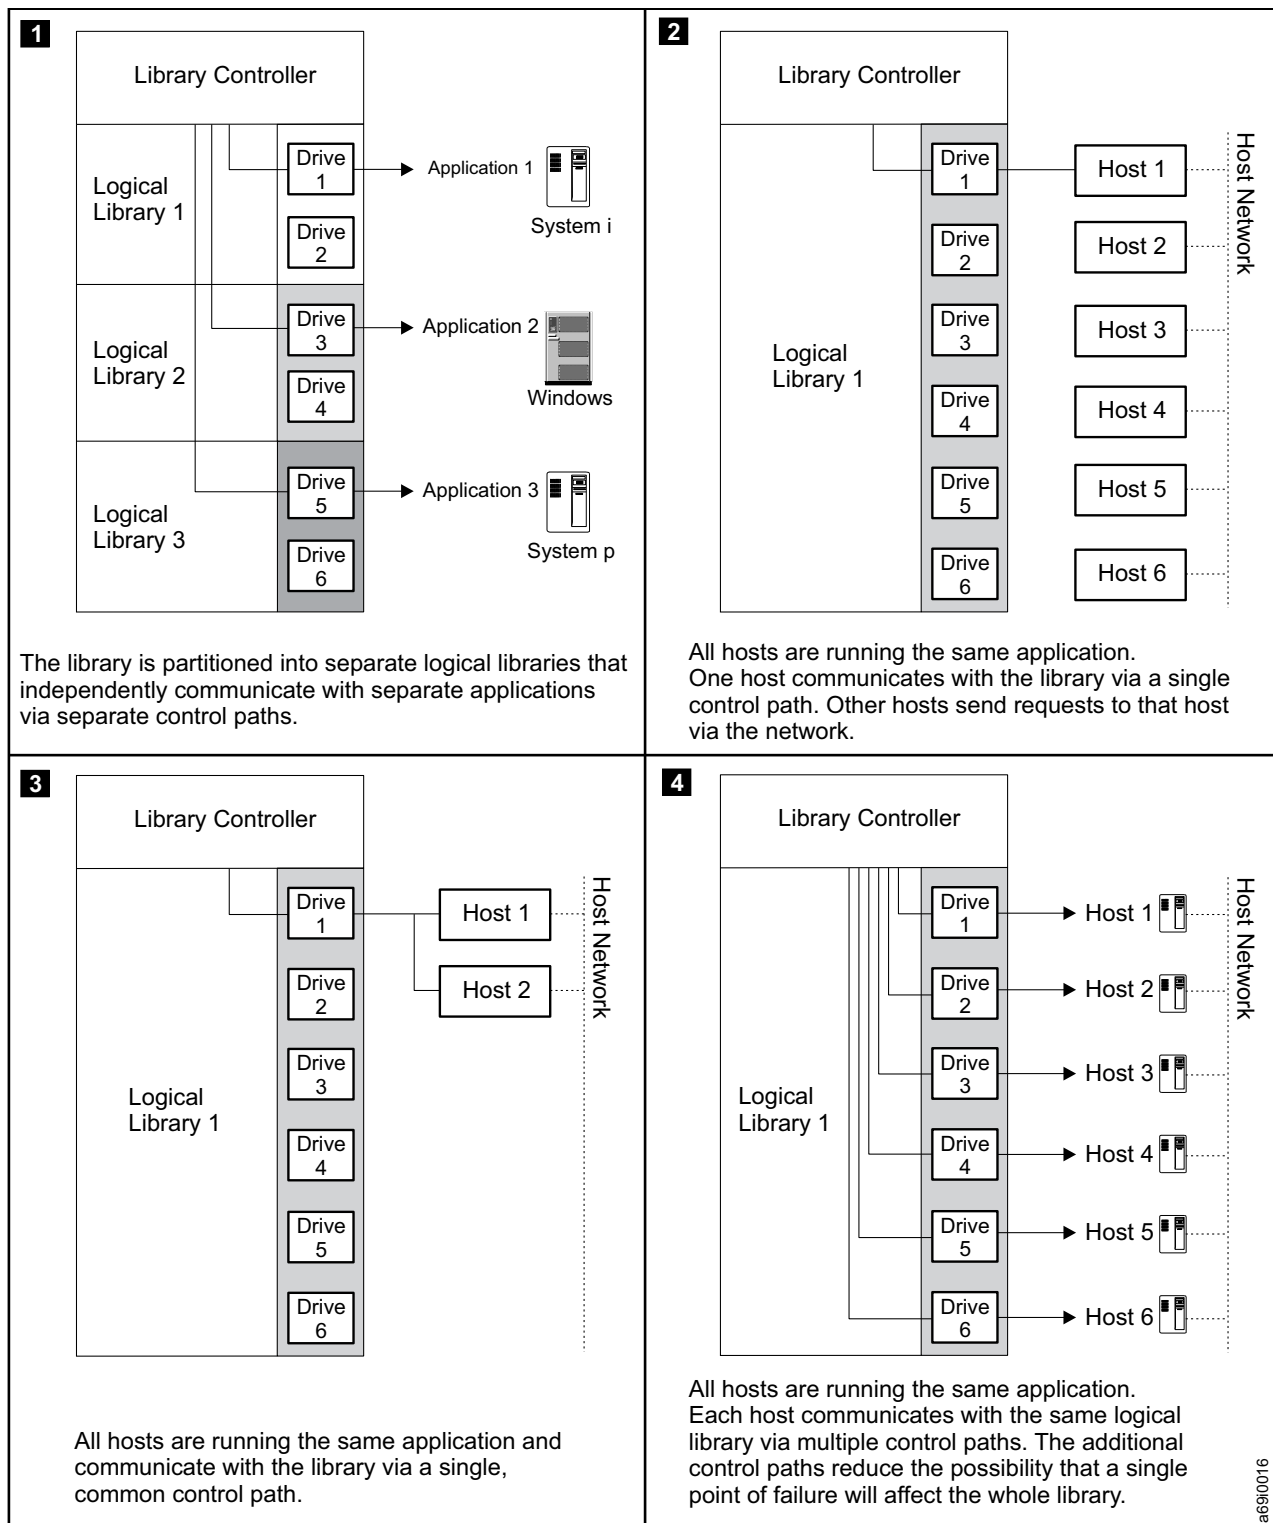

Figure 11. Examples of configurations for sharing an TS3500 tape library. Lines from one or more drives to the library controller represent control paths.
- Configure the library so that it is partitioned into separate logical libraries that independently communicate with separate applications through separate control paths. This configuration (see example **1** in Figure 11 on page 41) requires no special capabilities from the server or application.
- Configuring one server (mainframe host) to communicate with the library through a single control path; all other servers send requests to that server through a network (see example **2** in Figure 11 on page 41). This configuration is used by Tivoli® Storage Manager (TSM).
- Configuring all of the servers to communicate with the library through a single, common control path (see example **3** in Figure 11 on page 41). This configuration is used in high-availability environments such as High-Availability Cluster Multi-Processing (HACMP™) from IBM and Systems Management Server and Clustered Server Environments from Microsoft. Multi-initiator configurations are only supported by certain adapters and independent software vendors (ISVs). Check with your ISV.
- Configuring a single logical library to communicate with multiple servers through multiple control paths. This configuration (see example **4** in Figure 11 on page 41) requires that you add control paths. It is used by Backup, Recovery, and Media Services.
Your library configuration is not limited to the examples shown in Figure 11 on page 41. Many configurations are possible, and you can design them according to your business needs.